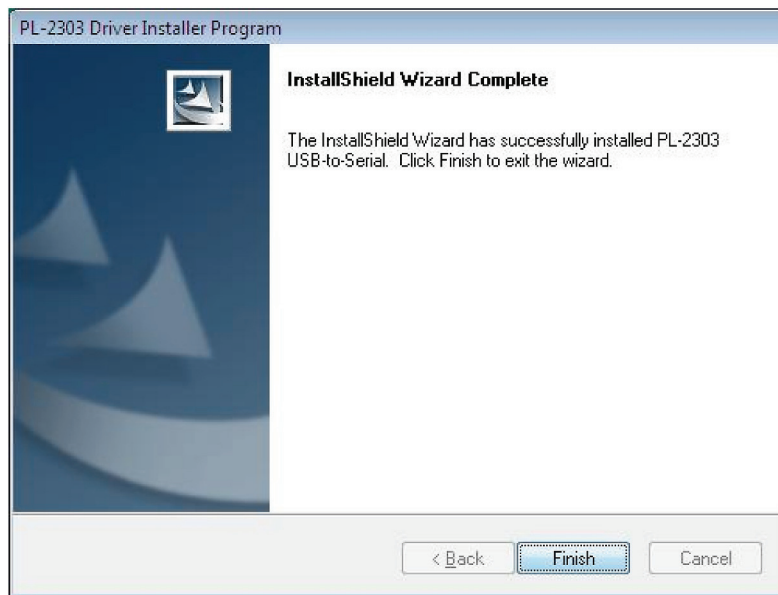

Figure 3-3. Installation complete screen.
2. Click "Finish" to complete the installation. See Figure 3-3.